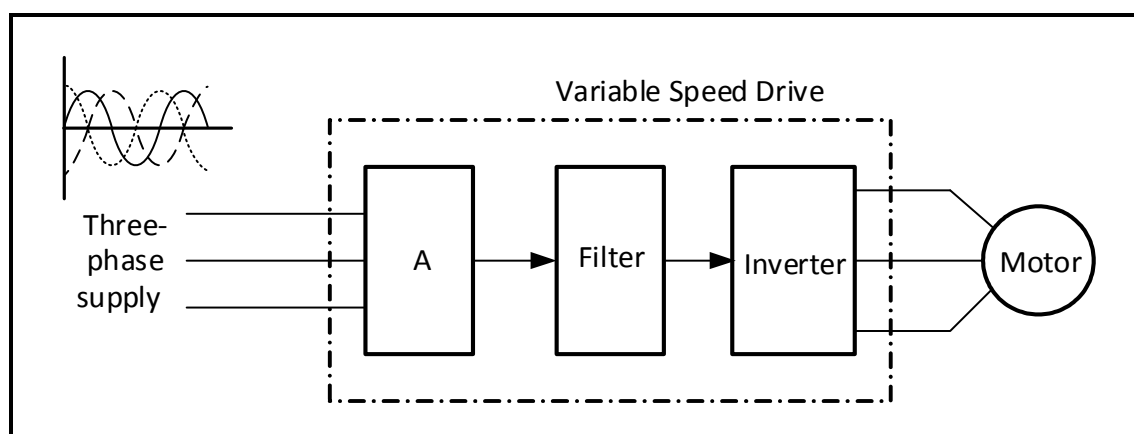

FIGURE 6.16: BLOCK DIAGRAM OF VSD
6.16 FIGURE 6.16 below is a block diagram of a variable speed drive (VSD). Answer the questions that follow.